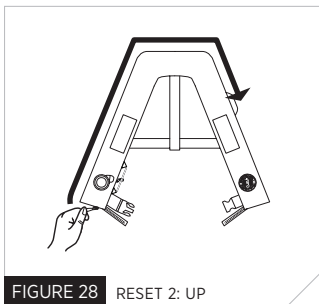

FIGURE 28 RESET 2: UP
8. Reset 2: Pull the slider (I) to the Velcro™ tab (H) (Fig. 28). Close by pulling slider (I) in the opposite direction to the end of the zipper (Fig. 29). Ensure that the inflatable cell does not get caught by the zipper when closing.